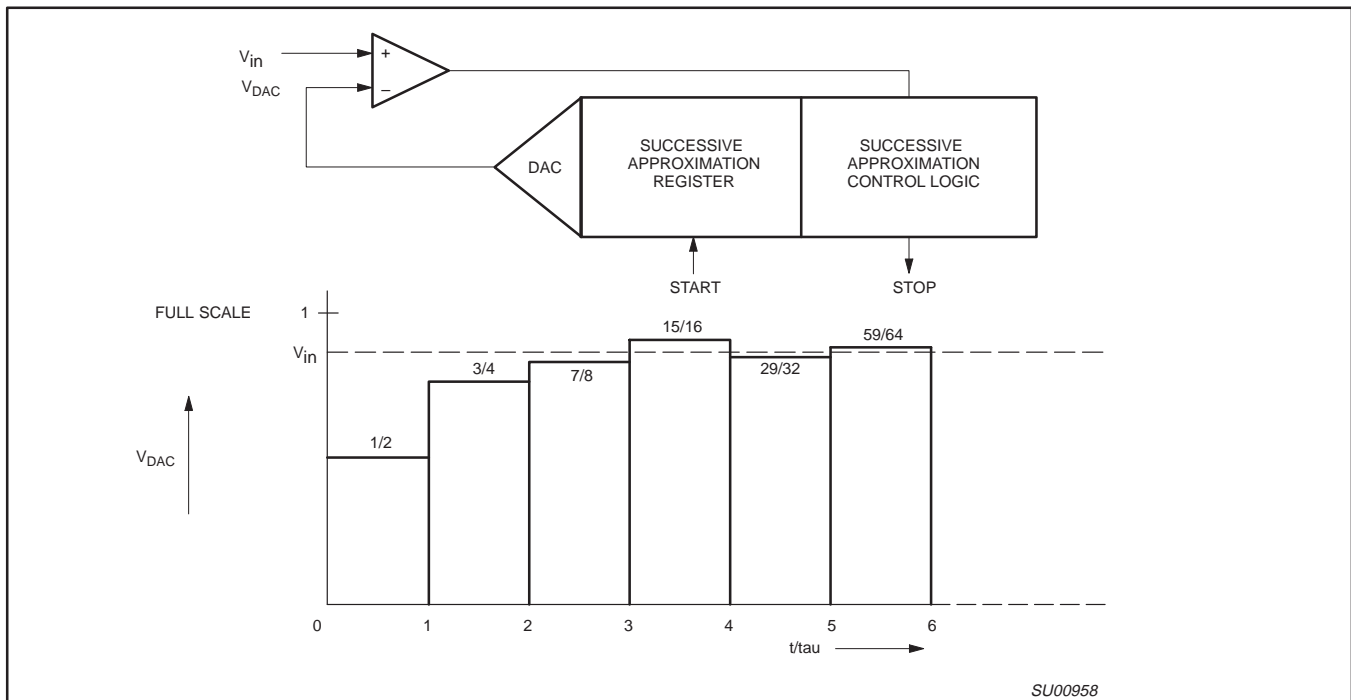

Figure 20. Successive Approximation ADC
**10-Bit Analog-to-Digital Conversion:** Figure 20 shows the elements of a successive approximation (SA) ADC. The ADC contains a DAC which converts the contents of a successive approximation register to a voltage ( $V_{DAC}$ ) which is compared to the analog input voltage ( $V_{in}$ ). The output of the comparator is fed to the successive approximation control logic which controls the successive approximation register. A conversion is initiated by setting ADCS in the ADCON register. ADCS can be set by software only or by either hardware or software.